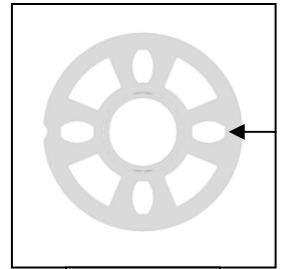
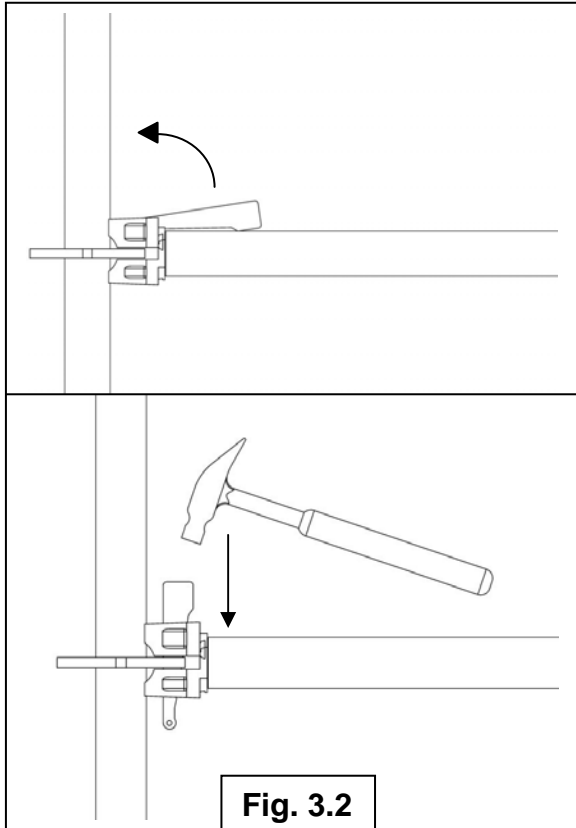

Fig. 3.1
Fig. 3.2
A. Determine the pitch of the bleacher (0.5M or 1.0M) to be erected and begin with that starter. Slide the end of the Horizontal into place over the narrow opening of the ring (see Fig. 3.1) of the Vertical Starter. Flip up the wedge and hammer firmly into place (see Fig. 3.2).
B. Slide the end of the Horizontal into place over the narrow opening of the ring of the Vertical Starter. Flip up the wedge and hammer firmly into place. (Reference Fig. 3.1 and Fig. 3.2).